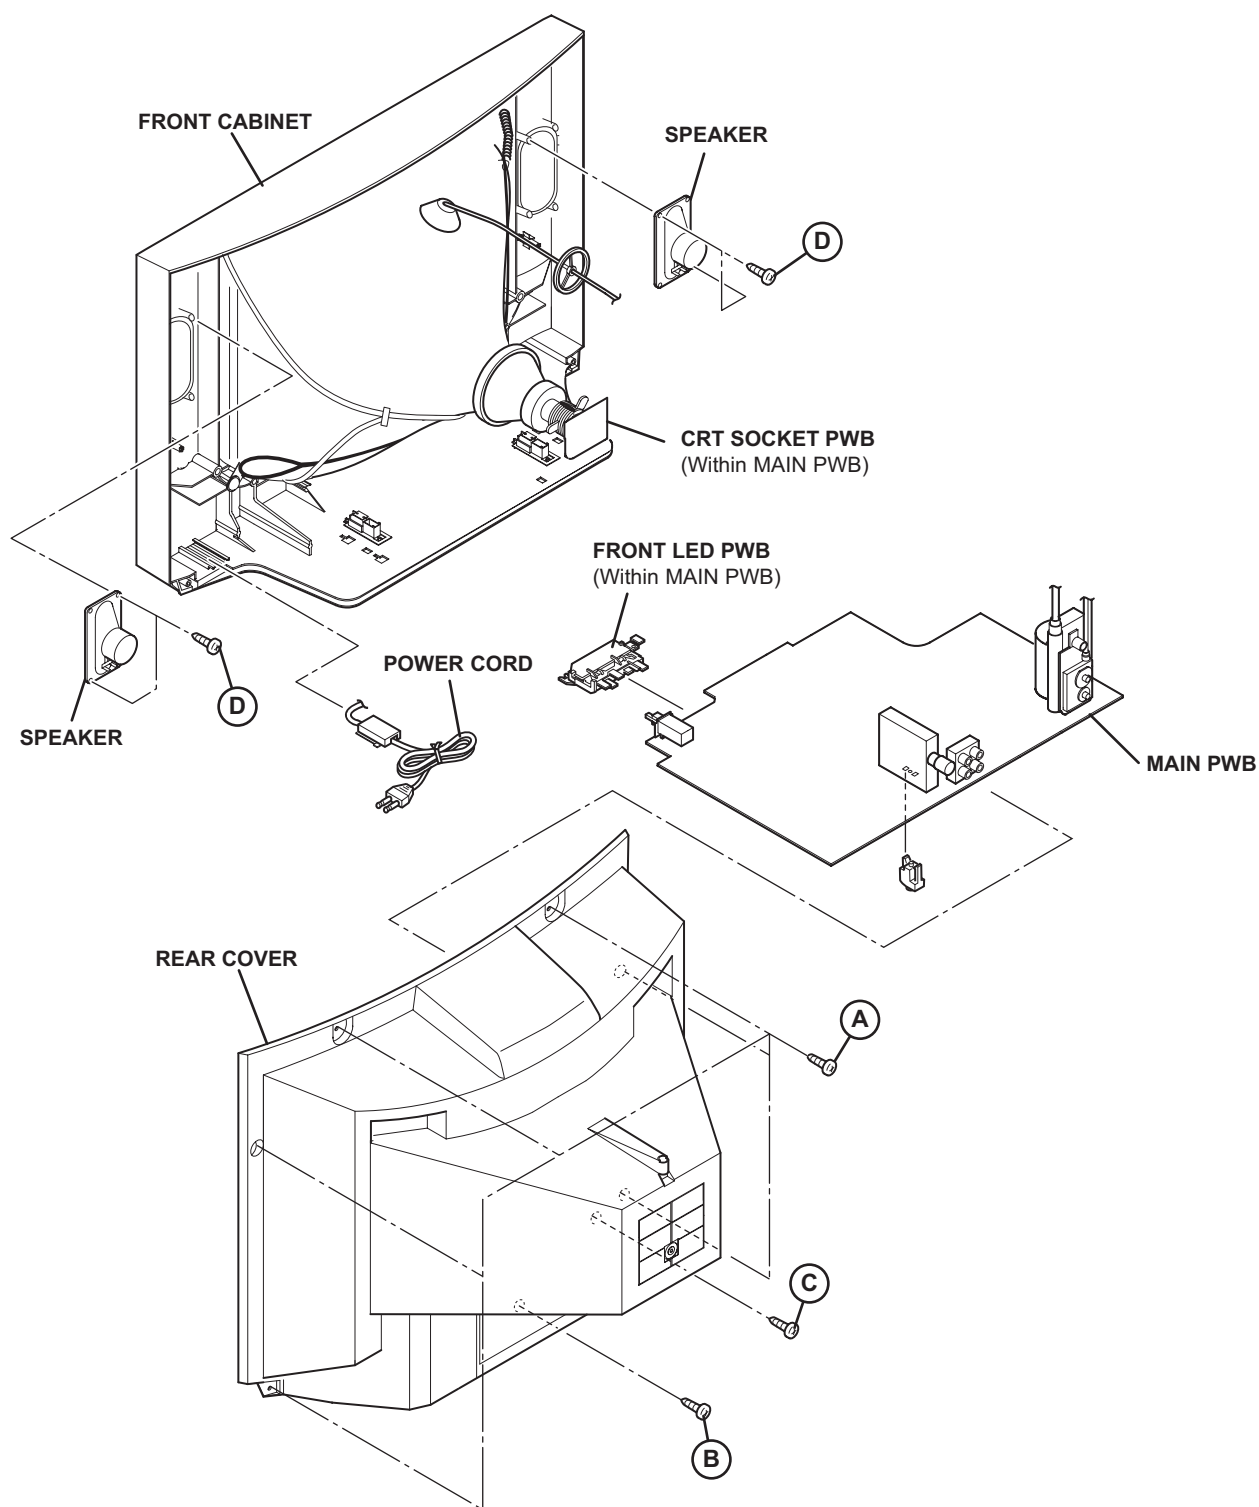

Fig.1
- (1) Remove the 6 screws **[A]**, 1 screw **[B]** and 1 screw **[C]** as shown in Fig.1.
- (2) Withdraw the REAR COVER toward you.
- (1) Remove the 2 screws **[D]** as shown in Fig.1.
- (2) Follow the same steps when removing the other hand SPEAKER.